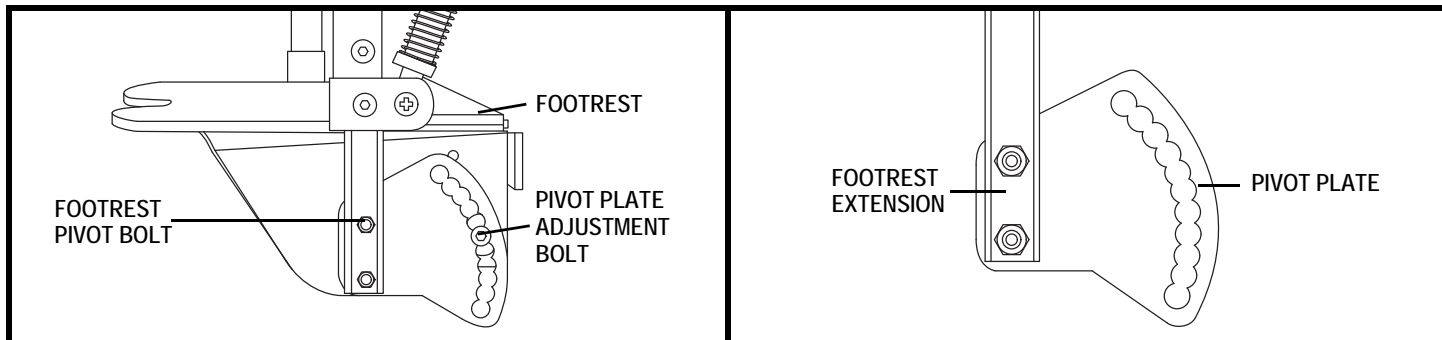

Figure 57. Footrest Assembly (Short Leg Drop)
3. Flip pivot plates upside down and attach to opposite footrest extensions making sure that T-nut in counter-bored hole is bolted to upper hole in footrest extension. **See figure 57.**
4. Reinstall footrest upside down with pivot bolt through the lower hole of the extension. **See figure 57.**